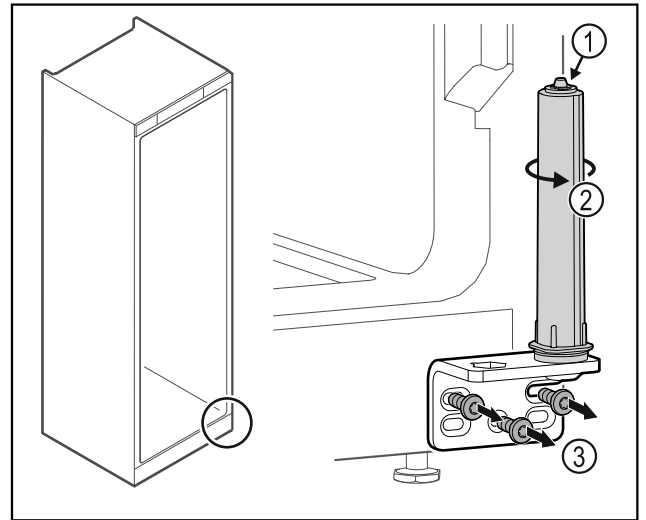

Fig. 34
- ▶ Do not disassemble the door closing system Fig. 34 (1).
- ▶ Turn the closing system Fig. 34 (2) until it clicks.
- ▶ Unscrew the hinge Fig. 34 (3).